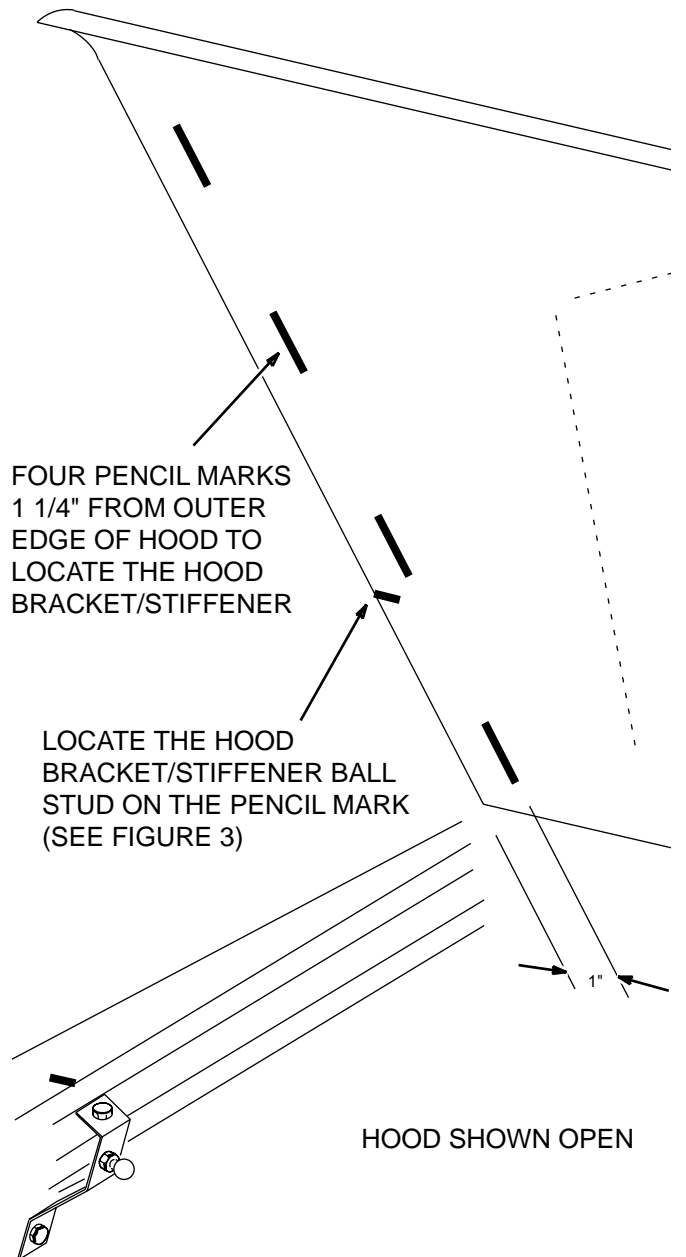

Figure 7
12. Mark the underside of the hood in four places, 1 1/4" from the outside edge of the hood. The hood bracket/stiffener will be located on these marks. See Figure 7.